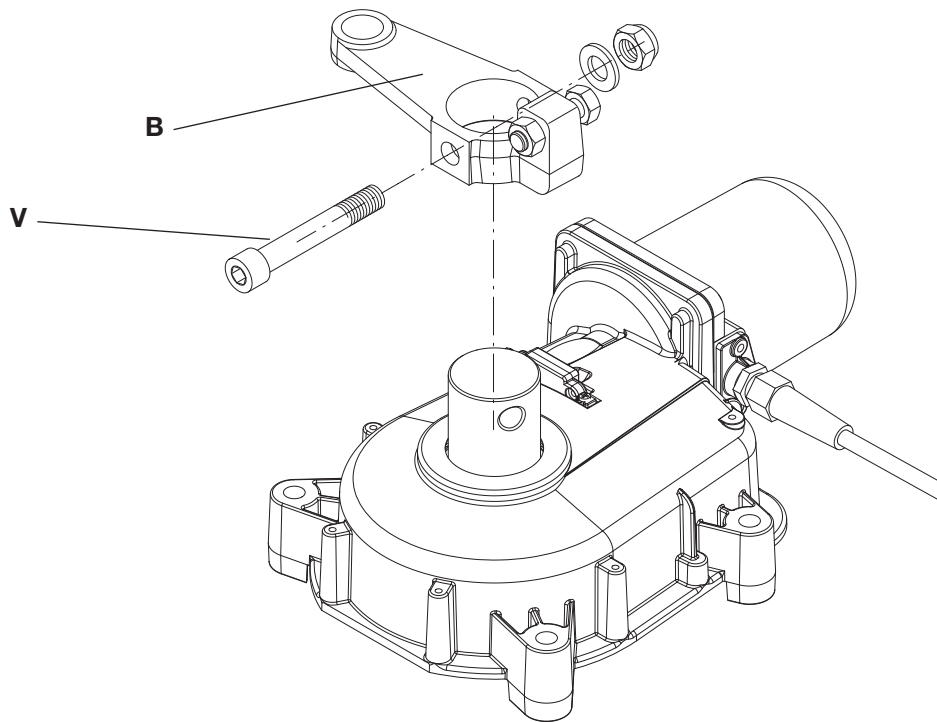

Fig.2
- 1 Assemble the cam "B" as per Fig. 2 and firmly tighten the screw V (tightening torque 45 Nm max).